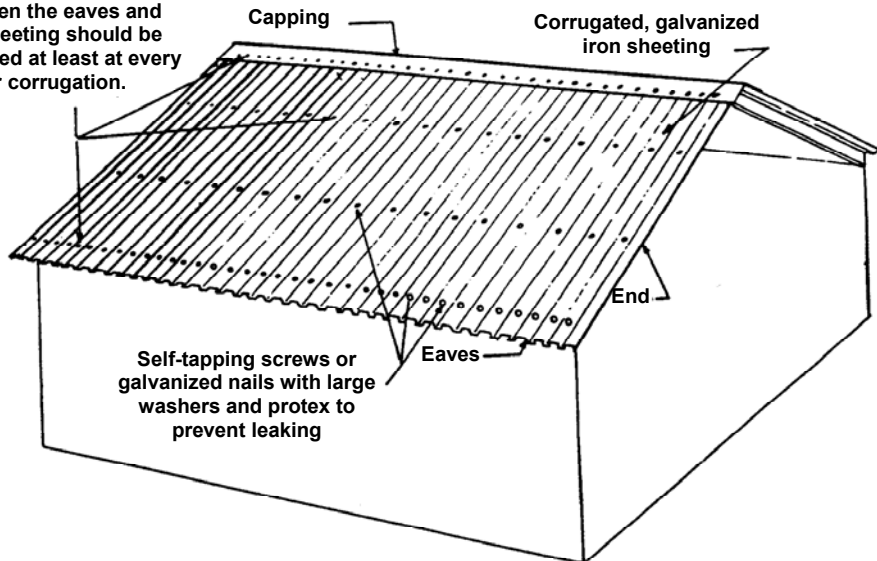
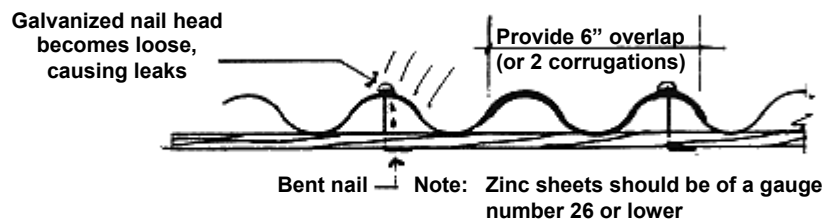

Figure 26 Nailing
Figure 28 Section detail
1. At the ridge and eaves of the roof, nails should be placed at each corrugation, as the eave are where the lift is greatest and where nails and screws are most likely to tear through the sheets. For the rows in between the ridge and the eaves, one nail should be placed at every other corrugation (Figure 26). Corrugated roof sheeting should always be nailed through the crown of the corrugation, not through the trough (Figure 28).
There is the tendency to bend the roofing nails into the lath on the underside of the roof, however, this is not good practice. Bending may cause the large head of the nail to become loose, which will cause leaks and release the grip of the nail head on the corrugation of the sheets. Bending of nails can also dent the corrugations, creating a gap between the nail and the roof sheet, which can cause leakage (Figure 28 and Figure 29).